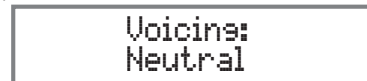

Figure 63
1. Press the TRIM Push-button until "Voicing: Neutral" appears on the Front Panel Display. Refer to figure 63.